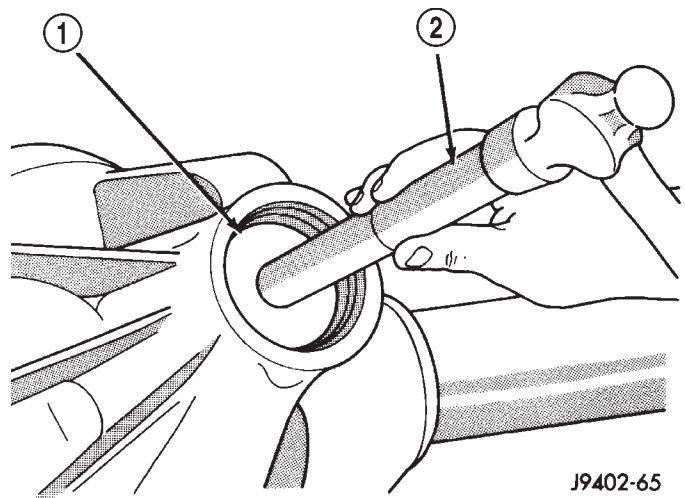

Fig. 58 Pinion Outer Bearing Cup Installation
(2) Apply Mopar® Door Ease, or equivalent, stick lubricant to outside surface of front pinion bearing cup. Install the bearing cup with Installer D-130 and Handle C-4171 (Fig. 58).